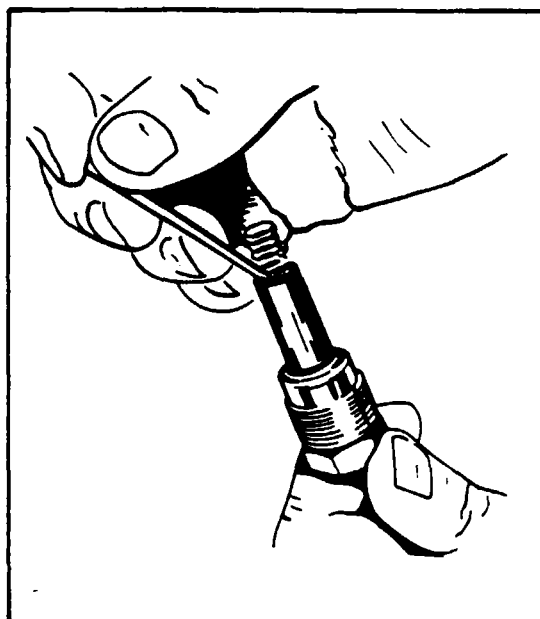

Figure 8-30. Removing Spring From Lead Assembly
- a. Using a Bendix 11-7073 needle or a mechanical pencil with the lead retracted, hook the end of the contact spring as shown in Figure 8-30.